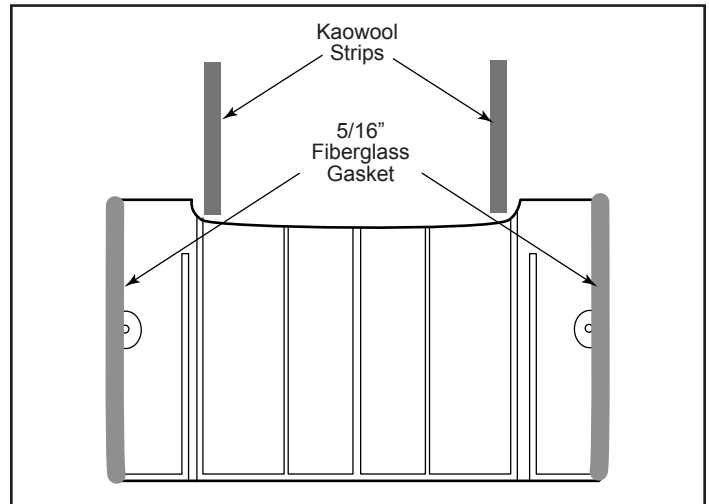
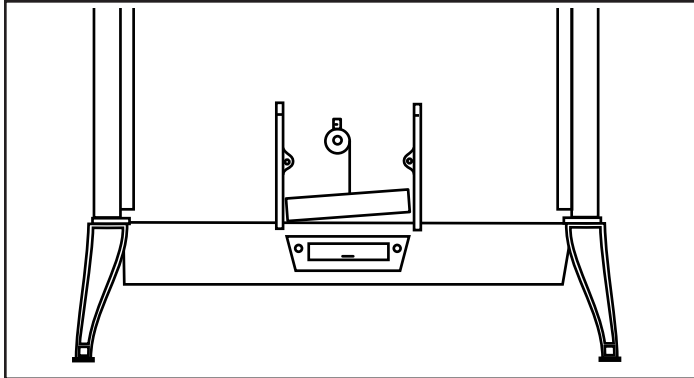
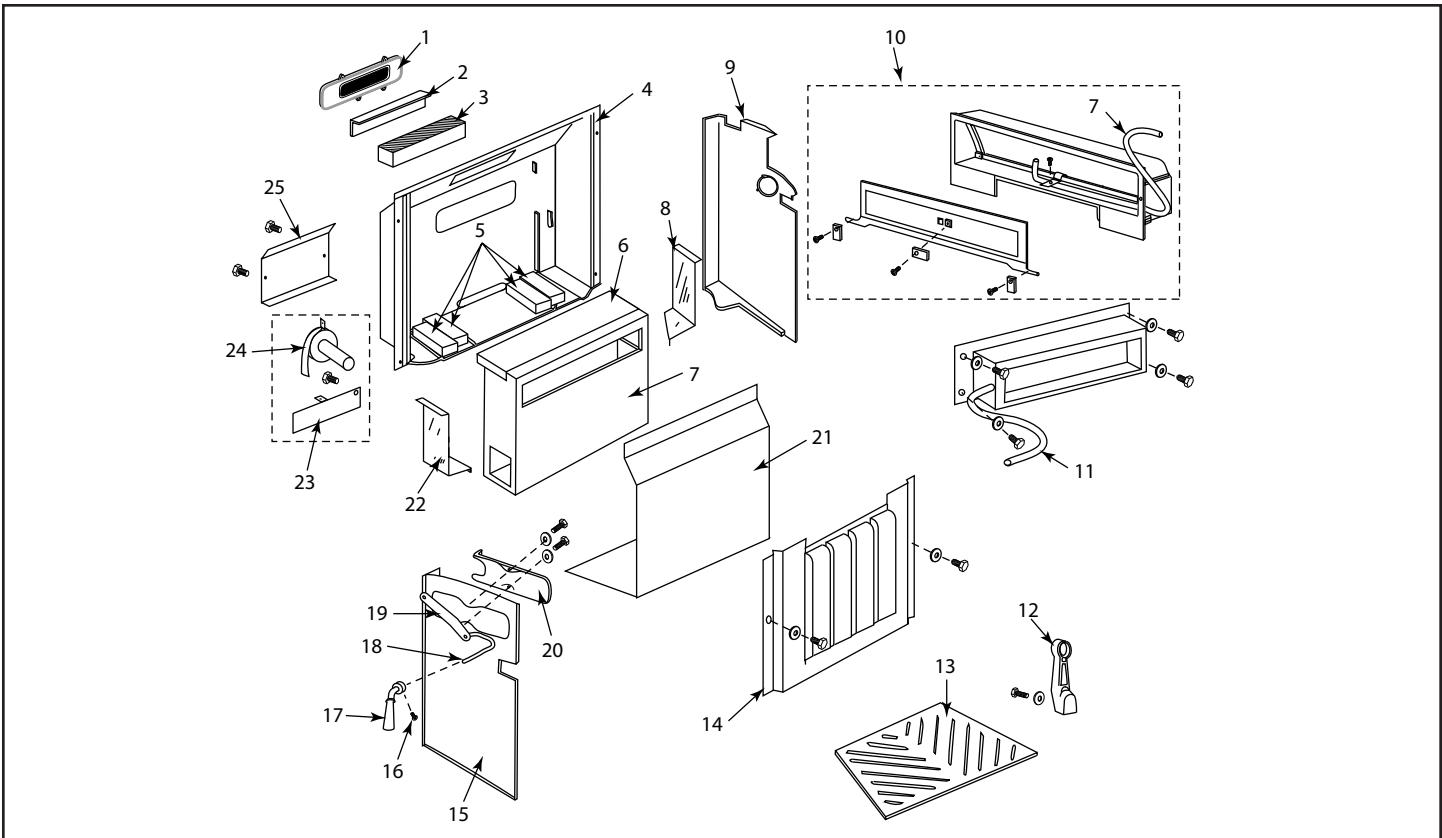

Figure 1 - Back view of lower fireback.
Figure 2 - Rear view of stove.
Figure 3 - Firebox parts diagram, Models 0028 and 2140 Defiant Encore stove.
5. Reach inside the damper linkage access opening. While holding the damper activating link (Figure 3, Item 19) with one hand, pull the damper handle rod (Figure 3, Item 18) from the hole in the left side of the stove and from the forward hole in the link with the other hand. Be sure to hold onto the activating link and the 3/8" flat washer. These will be nearly impossible to retrieve if dropped.
6. Use the activating link to pull the damper toward the closed position and disengage the back end of the link from the damper torsion bar (Figure 3, Item 11). Release the torsion bar gently to avoid letting the damper drop onto the steel shield on the catalyst refractory housing.
7. Remove the four (4) bolts holding the upper fireback assembly (Figure 3, Item 10) in place. Remove the assembly. You may need to pry it loose, since there is stove cement on the top back edge.
8. Remove the two (2) bolts holding the lower fireback (Figure 3, Item 14) in place, and remove the fireback.
9. If there is an external back heat shield on the stove, remove it by unthreading the four (4) truss-head screws holding it to the spacers.
10. Remove the cast iron catalyst access panel (Figure 3, Item 1) from the back of the stove by removing four (4) bolts.
11. Remove the refractory catalyst access panel (Figure 3, Item 2) from the stove. It is friction fit into place. Rock it out gently.
12. Remove the catalyst (Figure 3, Item 3) from the chamber by sliding it out through the opening in the back of the stove. Handle it gently, it is fragile. Inspect it for excessive wear, crumbling, plugging, etc., according to the instructions in the Encore Owner's Guide. Replace it if necessary.
13. Remove the steel secondary probe thermostat cover (Figure 3, Item 25) from the back of the stove by removing two (2) phillips head bolts.
14. Disengage the slender connecting link from the end of the secondary thermostat (Figure 3, Item 24). Leave it attached to the pivoting valve plate. Remove the secondary thermostat by unthreading the bolt which holds it in place and sliding the thermostat out toward the front.
15. Inside the firebox, remove the stainless steel refractory cover (Figure 3, Item 6)
16. Remove the refractory chamber and the stainless steel heat exchanger (Figure 3, Items 7, 21) together as a unit.
17. Remove the stainless steel left and right heat deflectors (Figure 3, Items 8, 22) from the stove back.
18. Remove and discard the four (4) Kaowool strips (Figure 3, Item 5) from the stove back.
19. Use a hammer and cold chisel to remove any remaining stove cement from the rear edges of the left and right inner stove walls (Figure 3, Items 9, 15) and from the groove in the underside of the stove top, where the top edge of the upper fireback assembly mates to the stove top. Remove any remaining stove cement from the damper link access panel and the left inner side. (Figure 3, Items 20, 15) Remove any cement or ashes from the groove in the stove bottom where the bottom edge of the lower fireback fits.
4. Install the left and right heat deflectors (Figure 3, Items 8, 22) at the sides of the refractory chamber. Notice their positioning; the longer legs of the 'L' shape go against the outer walls of the stove back away from the refractory. These deflectors protect the cast iron outer back from very high temperature gases leaving the catalyst chamber.
5. Slip the stainless steel refractory cover (Figure 3, Item 6) onto the top of the refractory chamber.
6. Apply a bead of stove cement to the back left and right edges of the new lower fireback (Figure 3, Item 14). Apply a length of 5/16" rope gasket on the ends of the fireback as shown in Figure 1. Press-fit the remaining two (2) Kaowool strips on the back of the fireback. (Figure 1) Apply cement in the groove in the stove bottom where the bottom edge of the lower fireback fits. Set the lower fireback in place in the stove, and fasten it with two (2) new bolts and washers from this kit. Since parts may have moved or expanded over time, you may need to enlarge the holes in the fireback to be able to mate them to the bolt holes in the inner walls of the stove.
1. Cut four (4) new Kaowool strips to a 5" length and install in the bottom of the stove back by setting in place.
2. Remove the refractory catalyst access panel (Figure 3, Item 2) from the back of the new refractory chamber supplied in this kit. The access panel is friction fit into the main chamber body. You may need to run a sharp knife around the edge of the access panel to loosen it from the chamber.
3. Put the upper edge of the stainless steel heat exchanger (Figure 3, Item 21) into the opening on the front of the refractory chamber. There are two main openings on the chamber, the one from which the access panel was removed in Step 2 is on the back of the chamber. Let the bottom of the chamber sit on the bottom of the heat exchanger. Put this assembly into the stove back as a unit.
7. Apply a bead of stove cement to the back left and right edges of the new upper fireback assembly (Figure 3, Item 10), lift it into position in the stove and fasten it with four (4) new bolts and washers from this kit. Be sure the torsion bar passes through the access opening at the top of the left inner stove side.
9. Reinstall the damper activating link (Figure 3, Item 19). This piece looks like a hockey stick. There is only one way to install this link so that it will close and lock the damper properly. The blade of the hockey stick must be toward the front of the stove and must aim downward.
Install the back end first by sliding it onto the end of the damper torsion bar. Slide it onto the short end of the J-shaped activating arm (Figure 3, Item 18). Pass the other end of the activating arm through the hole in the left side of the stove and attach the damper handle (Figure 3, Item 17). Notice the Allen bolt (Figure 3, Item 16) must tighten against a flat area on the activating arm. Be sure to slide the handle fully onto the arm; then secure it with the Allen bolt. Test the damper system to ensure parts are aligned properly.
10. Reinstall the damper link access panel (Figure 3, Item 20) by applying a bead of cement to the edges and bolting it into place with a 3/16" Allen wrench.
11. Hand turn a 3/16" drill bit through the hole in the back of the stove for the secondary probe thermometer. Install the thermometer by sliding it through the hole and fasten in place with a Phillips head screw. When positioned properly, the tab at the end of the secondary coil will be in the 4- to 5-o'clock range (when looking at the back of the stove). (Figure 2)
12. Connect the slender steel link between the secondary thermometer coil and the secondary air valve (shown in Figure 2 and Figure 3, Item 23). Make sure the valve can pivot freely on the bolt.
13. Replace the secondary thermostat cover (Figure 3, Item 25).
14. Slide the catalyst into the back of the stove through the access hole in the stove back. The open ends of the 'honeycomb' must be on the top and bottom surfaces of the catalyst. The lower forward edge of the catalyst sits on a ridge which is part of the stainless steel heat exchanger (Figure 3, Item 21). Be sure the catalyst is fully into the refractory chamber.
15. Install the new refractory access panel (Figure 3, Item 2) through the opening in the back of the stove. It is friction fit into position. Be sure the outer surface is flush with the outer surface of the refractory chamber (Figure 3, Item 7)